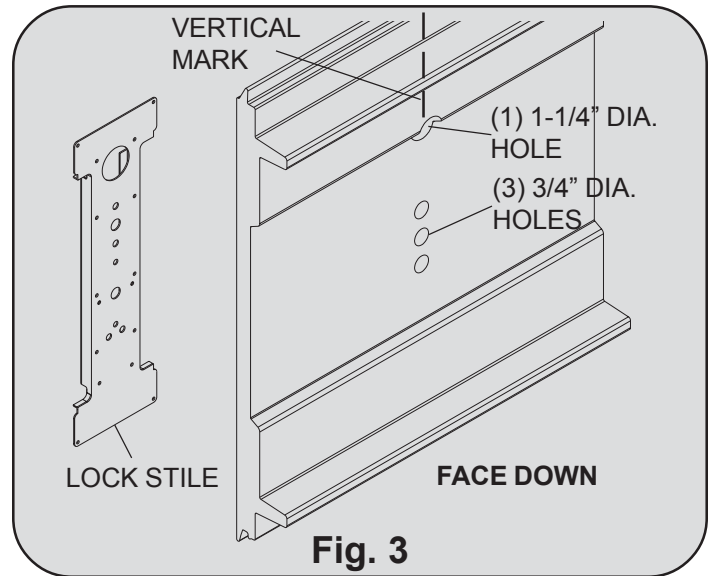

Fig. 3
9000 Series doors (see Fig.3), place the lock section face up on (2) padded sawhorses for a single car door or (3) padded sawhorses for a double car door. Locate the middle of the center stile, measure the distance from the end of the section to the middle of the center stile. Turn the section face down, transfer the measurement and mark a light vertical line. Align the center of the lock stile with vertical mark, use the lock stile as a template to mark the (4) holes, remove the lock stile and drill the (3) bottom